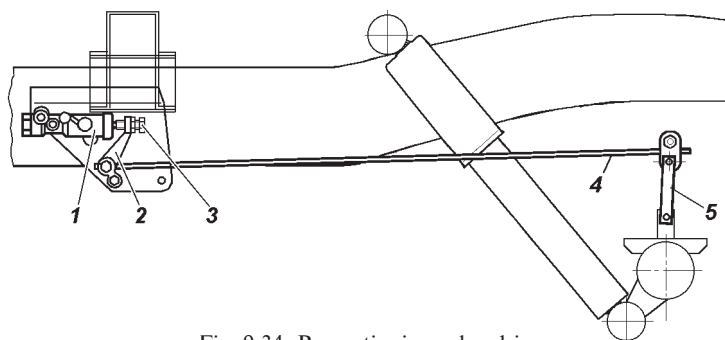

Fig. 9.34. Proportioning valve drive:
During the operation and during rear springs replacement, adjust the force of flexible arm 4 (Fig. 9.34) to the valve piston. For adjustment do the following:
4. Tighten bolt 3 (see Fig. 9.34) for 2-3 turns (14 edges of the bolt head).